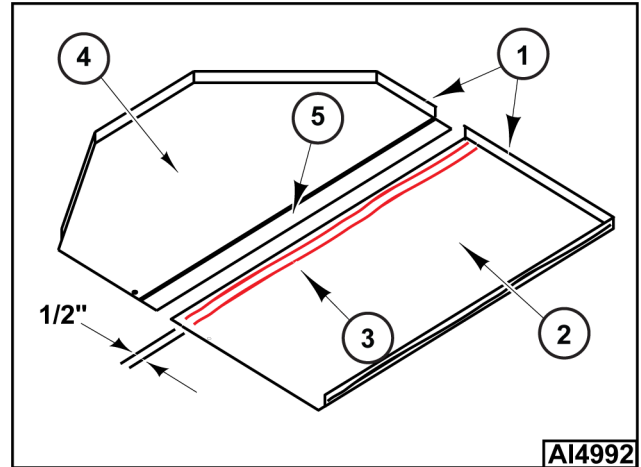

Fig. 49
3. Run a bead of high temp red silicone on the entire outer edge of both floor panels (1, Fig. 49).
4. Install floor panel without offset (2, Fig. 49). Flange goes up.
5. Run two beads of high temp red silicone (3, Fig. 49) on the flange of floor panel without offset.
6. Install remaining floor panel (4, Fig. 49) with offset (5, Fig. 49). Flange goes up.